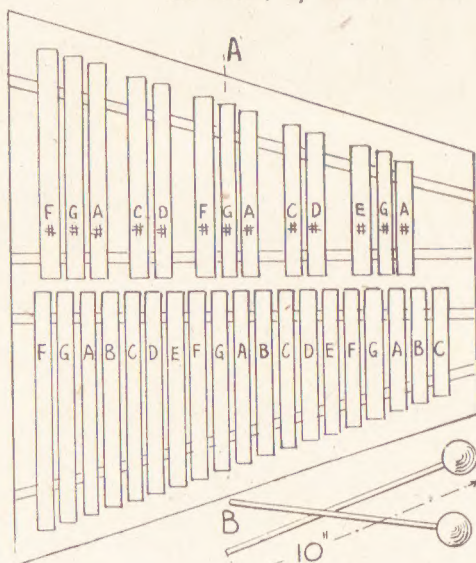

Fig. 2—Lay-out of notes and detail of beaters
The beaters should be made first, as they will be required for tuning as well as for actually playing the instrument later on. At (B) in Fig. 2 a pair of beaters is shown. Each consists simply of two hardwood balls about 1 $\frac{1}{2}$ ins. in diameter, with a hole bored through for a length of stout cane which must be securely glued in. A pair of ready-made beaters could be purchased, of course, at any good class instrument shop.
The size of the sounding box upon which the instrument is mounted can now be decided. It should be just $1\frac{1}{2}$ ins. larger all round than the space occupied by the notes when the latter are laid side by side, as in Fig. 2, with a space of $\frac{3}{4}$ in. between them.